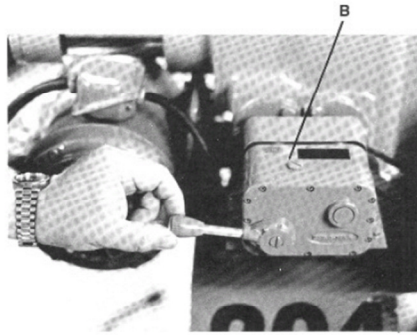

FIGURE 1
- Check oil in the Zero Max Speed Control Box. Box should be $\frac{3}{4}$ full. Add with 40 SAE grade oil at “B” in figure 1 below.